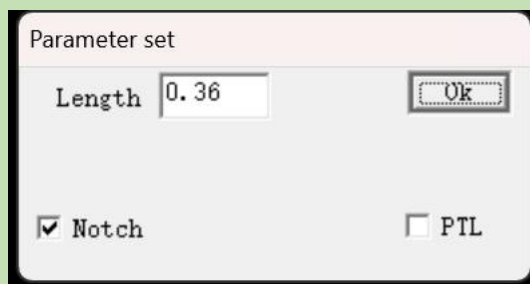
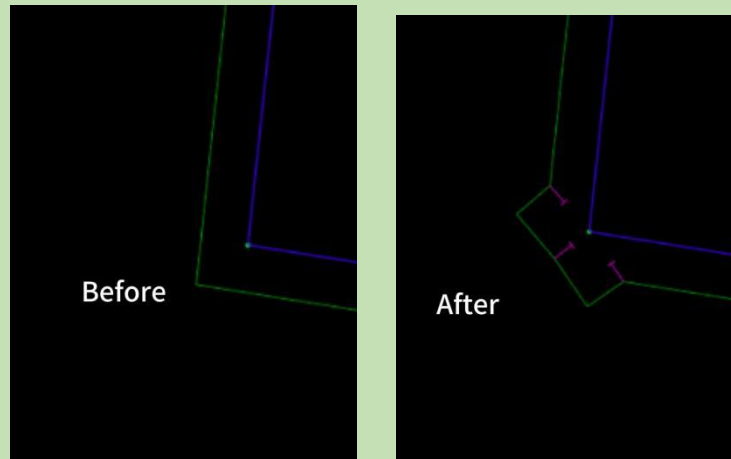

Figure5-19
Figure5-20
2. Set the reserved length as shown in Figure 5-19 and click OK; the comparison figure before and after setting the folding angle is shown in Figure 5-20. (Note: When the amount of seam allowance modification is increased, the system defaults this angle to be a folding angle.)